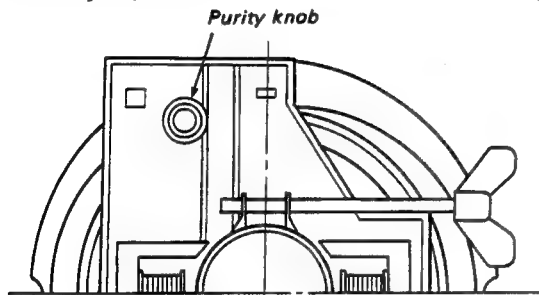

Fig. 1-1.
4. Set the purity knob as shown in Fig.1-1.